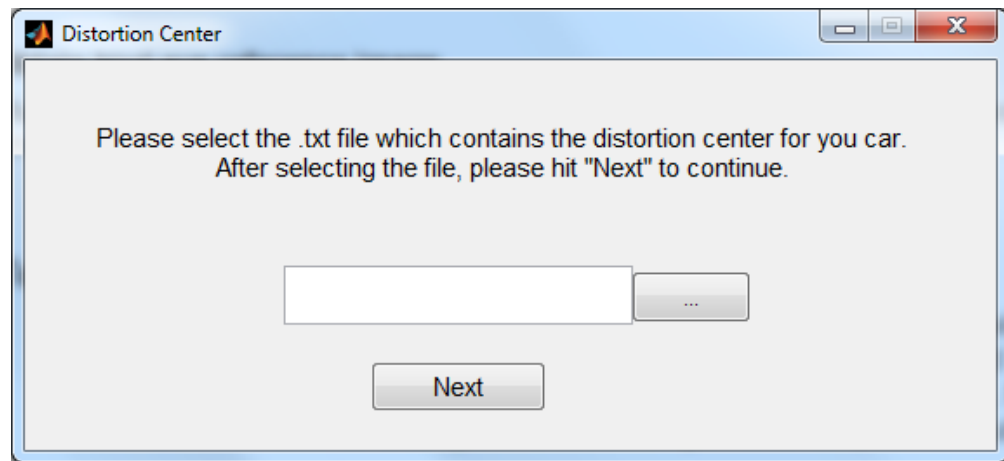

Figure 9 – Calibration Tool start window.
1. By running "calibration_tool.exe" in folder ./calibration_tool/, first you will see the windows shown in Figure 9. It will ask you to select the .txt file which contains the distortion center. For Jeep No. 1 – 8, the files have